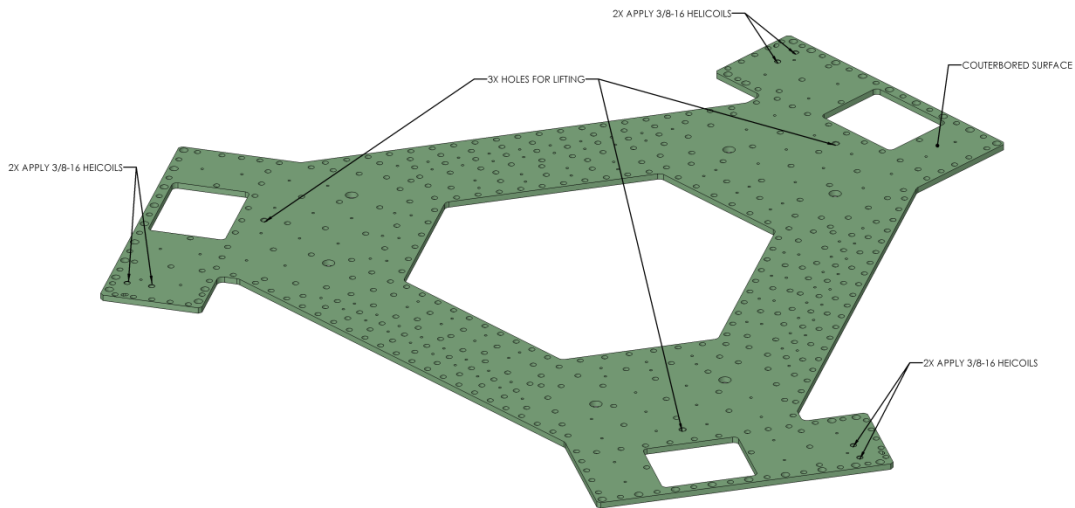

Figure 76: Prep Work for D0902503 Stage 1 Close Out Plate Cover
(6) 3/8-16 x 1 DIA Helicoils
- Install Nitronic 60 Helicoil threaded inserts into D0902503. See Figure 76.
- Lift D0902503 Stage 1 Close Out Plate Cover using (3) 1/2-13 Tapped Lifting holes shown on Figure 76.